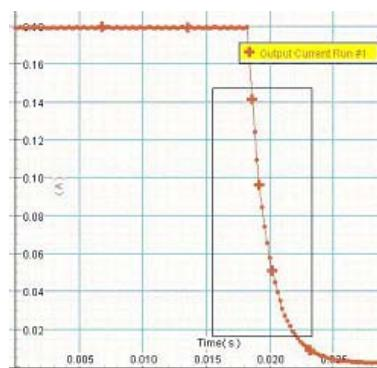

Figure 3 Exponential decay of current in *LR* circuit
- Click Start. The Output Current graph displays the familiar behavior of an *LR* circuit (see Figure 3). The maximum voltage and maximum current are recorded internally, and their ratio is given in a Coil Resistance display window.